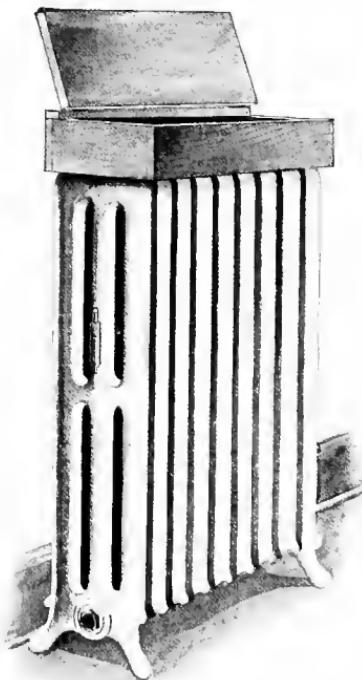

FIG. 161.—A RADIATOR PLATE-
**A Plate-Warmer**, by providing it with a box such as is shown in Fig. 161. Make the box frame a couple of inches larger than the top of the radiator, using boards 6 inches wide; then fasten two crosspieces between the sides, even
Shown in Fig. 161.
Nail a strip 2 inches wide across the back of the top of the box, for a hinge-strip, and hinge a board to this for a cover (Fig. 161).